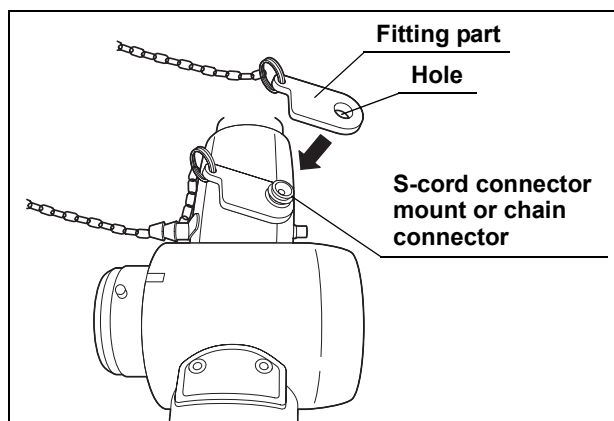

Figure 2.3
5. Place the hole on the fitting part over the endoscope's S-cord connector mount or the chain connector of the GIF-N260 and GIF-XP260 (see Figure 2.3).